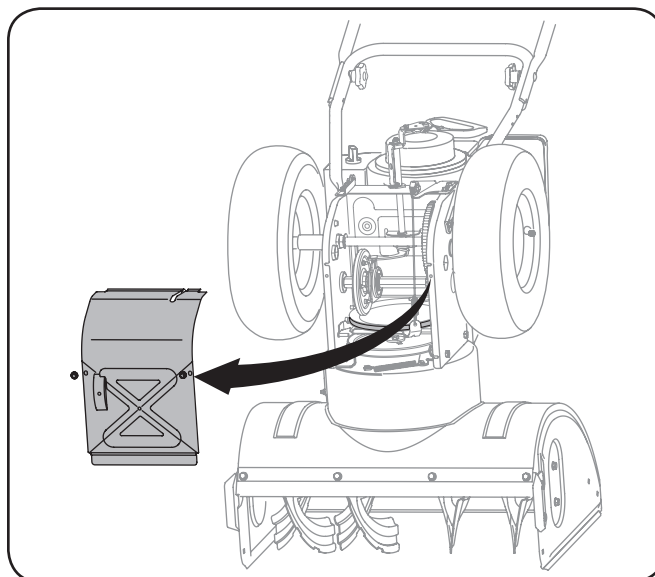

Figure 8-3
4. Remove the frame cover from the underside of the snow thrower by removing four self-tapping screws which secure it. See Fig 8-3.
5. Remove the frame cover from the underside of the snow thrower by removing four self-tapping screws which secure it. Refer to Fig. 8-3.